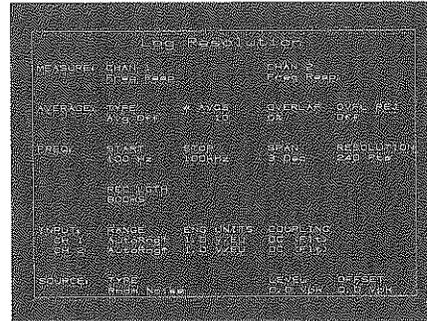

Figure 3-1
2. **Preset** Press the green **PRESET** key to select the log resolution preset measurement. The Log Resolution setup state can be displayed, as shown in Figure 3-1, by pressing the **STATE/TRACE** key.